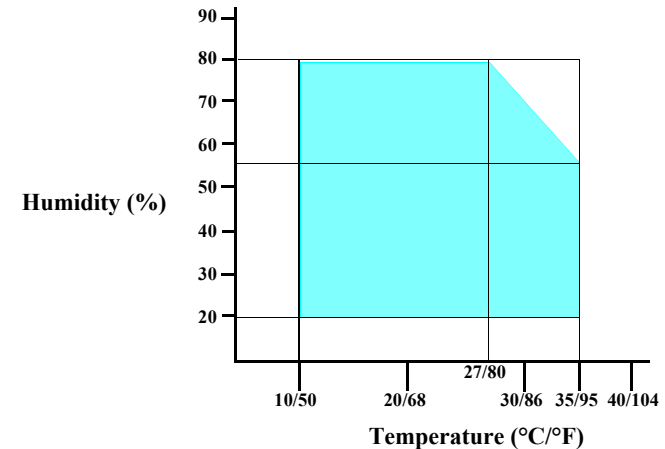

Figure 1-4. Temperature/Humidity Range
- Note \*1: The combined Temperature and Humidity conditions must be within the blue-shaded range in Fig.1-4.